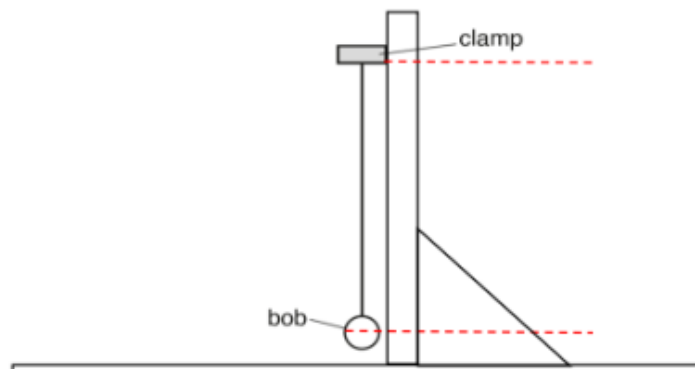

Fig. 4.2
- (ii) Use Fig. 4.2 to explain how you would measure the length l accurately. You may draw on the diagram.